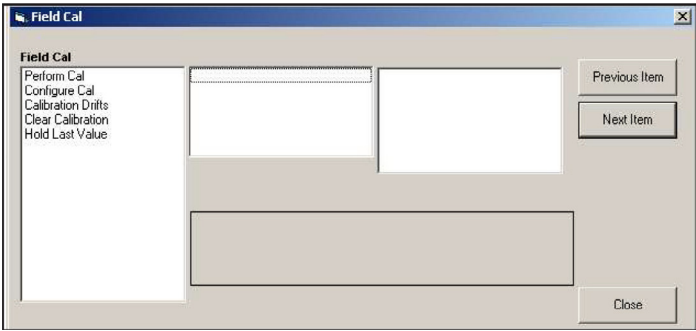

Figure 85: Field cal window
5. To open a particular menu, double-click on that menu on the tree. For example, if you double-click on the *Field Cal* menu, a window opens similar to *Figure 85* below.